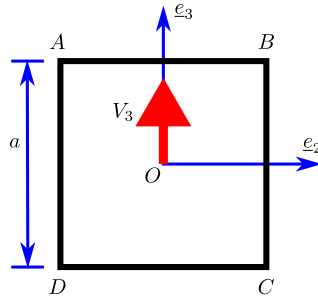

Figure 2: Box section geometry for Q2.1.
1. Consider a square section with side  $a$  and thickness  $t$  as shown in fig. 2. Answer the following: